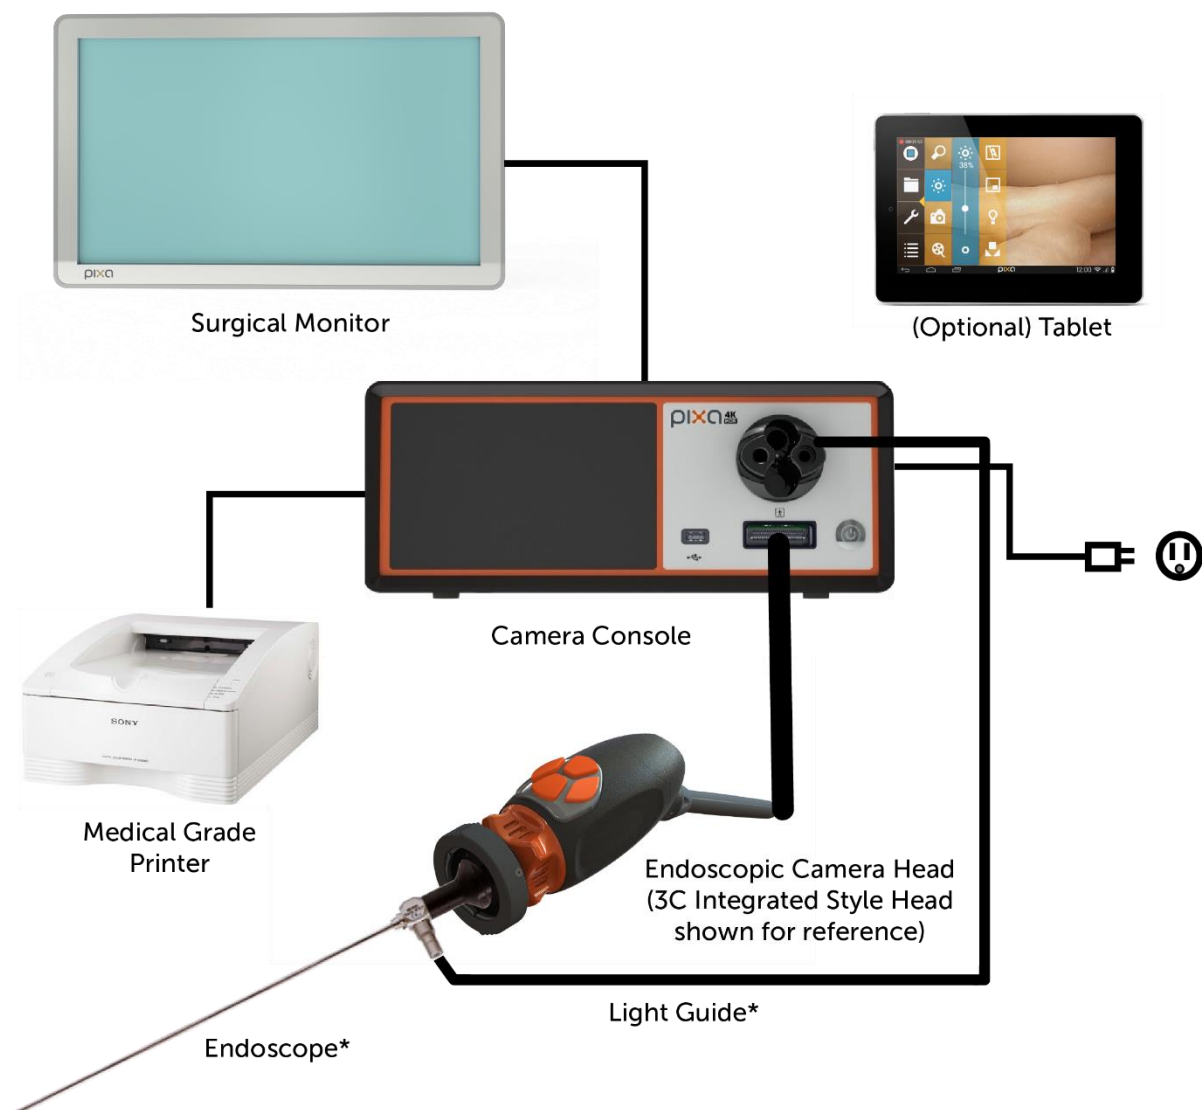

Figure 1 – Installation/System Setup Illustration of the Camera System with a reusable head
A typical installation of the Camera System with a reusable head is illustrated in Figure 1 for reference.
- Use Figure 1 and the rear panel labeling as a guide to connect other compatible equipment, if desired.